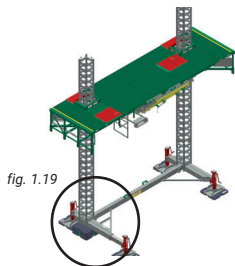

fig. 1.19
- 12- Make sure to extend the left rear base outrigger to its maximum length (fig. 1.19).